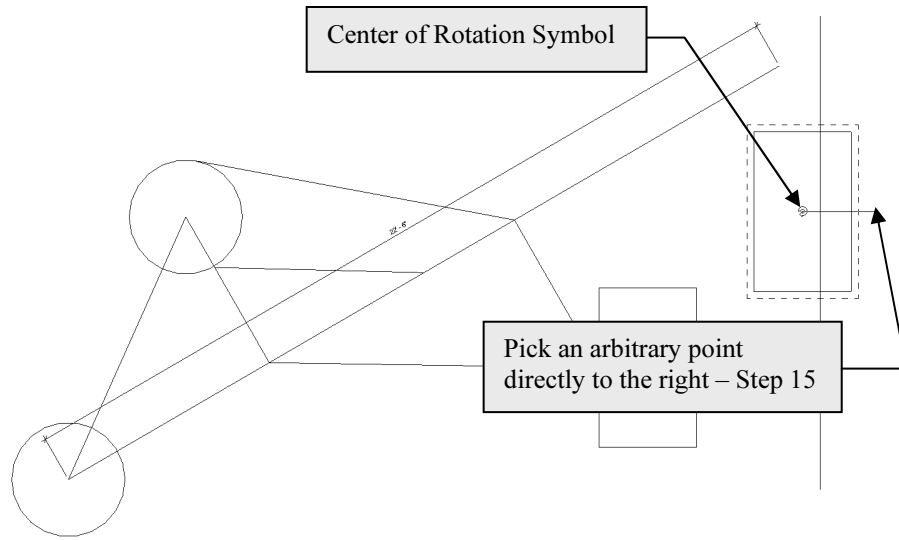

Figure 3-3.6 Rotate tool – First Step; Select lines and then click Rotate
Notice that the “Center of Rotation” symbol, by default, is located in the center of the selected objects. This is the point about which the rotation will occur. See Figure 3-3.6.
15. Pick a point directly to the right of the “Center of Rotation” symbol; this tells Revit you want to rotate the rectangle relative to the horizontal plane (Figure 3-3.6).